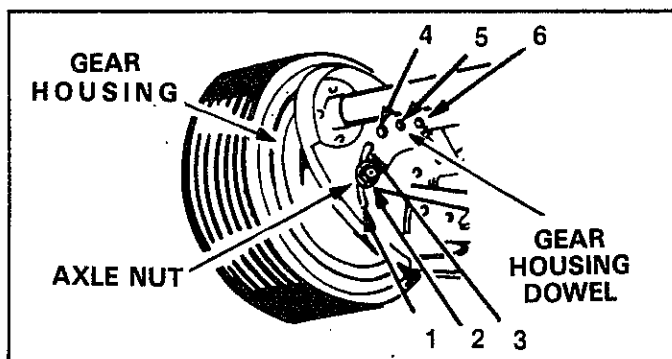

FIGURE 4
1. Loose axle nut approximately 3 turns. Disengage gear housing dowel from end plate by moving wheel and gear housing outward. Move wheel to desired setting. See figure 4.